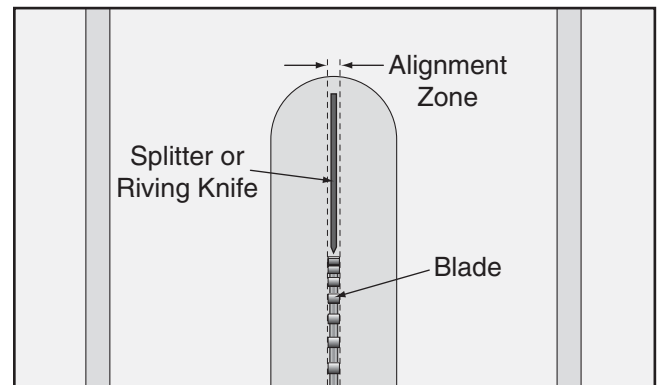

Figure 82. Splitter/riving knife alignment zone.
- Place the straightedge against the blade and the splitter/riving knife. When properly aligned, the splitter/riving knife will be in the "Alignment Zone", shown in **Figure 82**, and will be parallel with the blade.